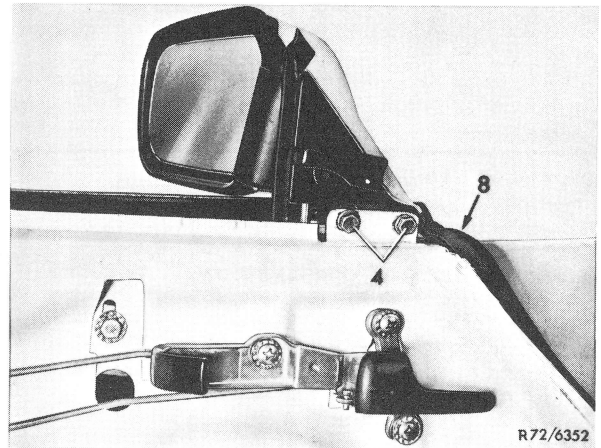

Fig. 3
- 3 Loosen sealing frame on clip (8) (Fig. 3).
- 6 Loosen upper fastening (5) and lower fastening on window guide rear (Fig. 3).